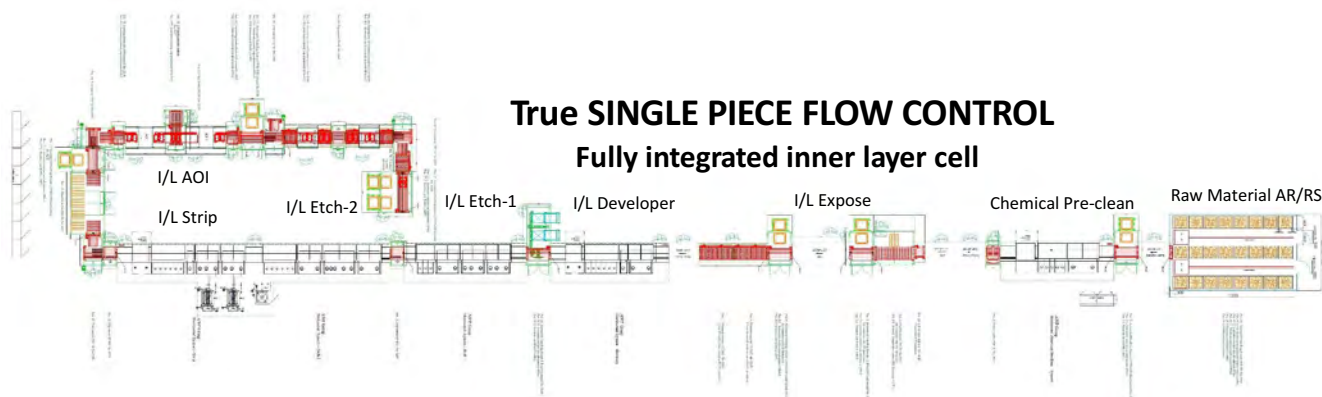

Figure 10: Inner layer processing line including automated materials warehouse and AS/RS.
2. Fully automated inner layer line with automatic materials retrieval (Figure 10)